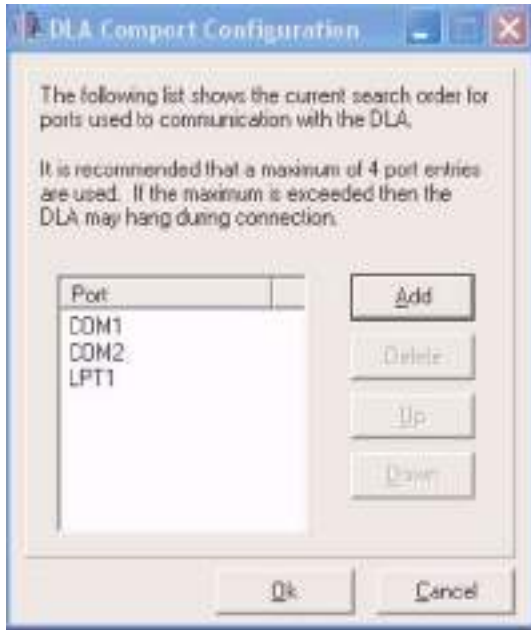

Fig 123.
- 3 If the "Parallel/Serial" option is selected a second dialogue box will appear. The communication ports that Servicemaster 2 will communicate through and the order in which it will try and communicate will be displayed in the window ⇒ Fig 123. (□ C-138).